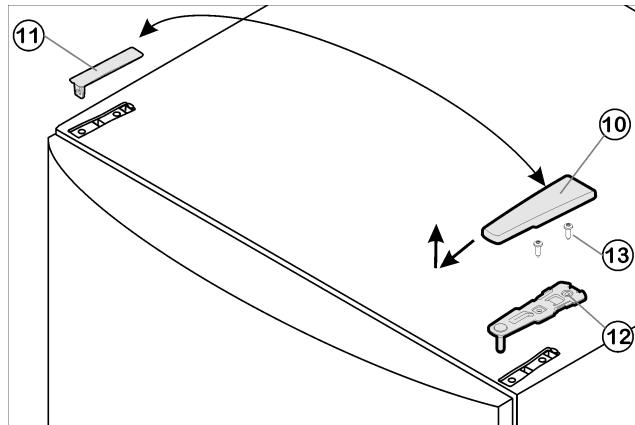

Fig. 9
- ▶ Pull cover Fig. 9 (10) forward and upwards to remove.
- ▶ Lift off cover Fig. 9 (11).
- ▶ Unscrew upper bearing bracket Fig. 9 (12)(2 x Torx® 25) Fig. 9 (13) and pull it upwards to remove.
- ▶ Insert the upper bearing bracket Fig. 9 (12) on the new hinge side into the door.
- ▶ Tighten the upper bearing bracket (**to 4 Nm**) (2 x Torx® 25) Fig. 9 (13). Make preliminary holes (optional) or use a cordless screwdriver.
- ▶ Snap both cover Fig. 9 (11) and cover Fig. 9 (10) into place on the opposite side.